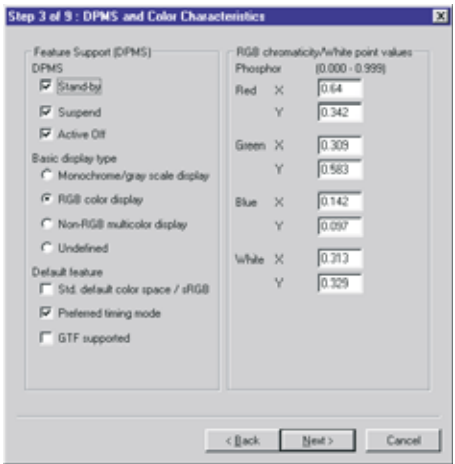

Fig.20
2. Click Next , bring up Fig. 20.